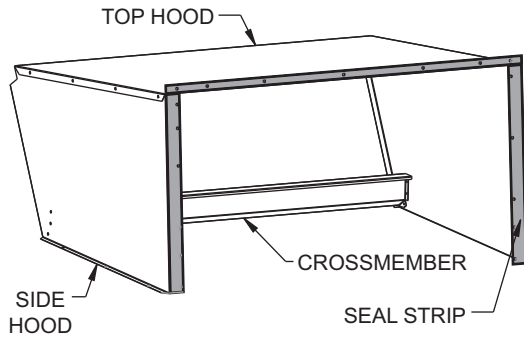

Fig. 19 — Adding Seal Strip to Hood Top and Side Hoods
5. Apply black seal strip (provided) to mounting flanges of hood sides being sure to cover mounting holes. See Fig. 19.
6. Apply black seal strip (provided) to back of hood top mounting flange. Seal strip of hood top mounting flange must press tightly against seal strip of hood side mounting flanges. See Fig. 19.